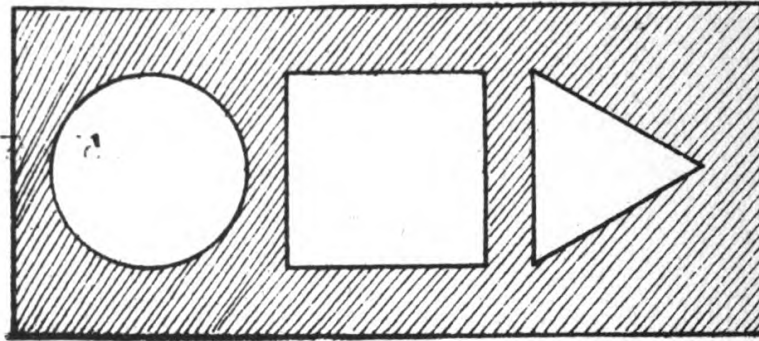

FIG. 58.
*The Three-hole Puzzle.*—Really the puzzle consists of a piece of thin wood with three holes cut in it. These three holes are respectively circular, square, and triangular (Fig. 58).